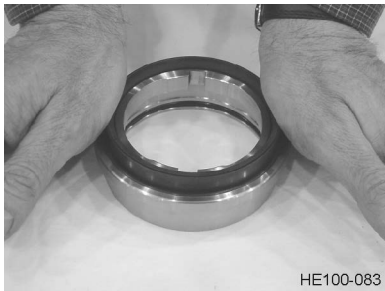

Figure 63 - Press Insert Down Evenly with Both Hands
2. Push the Seal Body Insert down evenly with both hands until it bottoms out. See Figure 63.